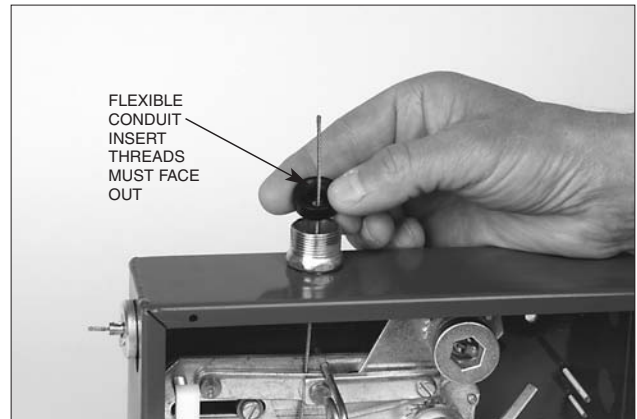

Figure 4-41.
4. Thread the stainless steel wire rope through the EMT conduit connector and flexible conduit insert. Make certain thread in flexible conduit insert is facing out toward end of connector. See **Figure 4-41**.